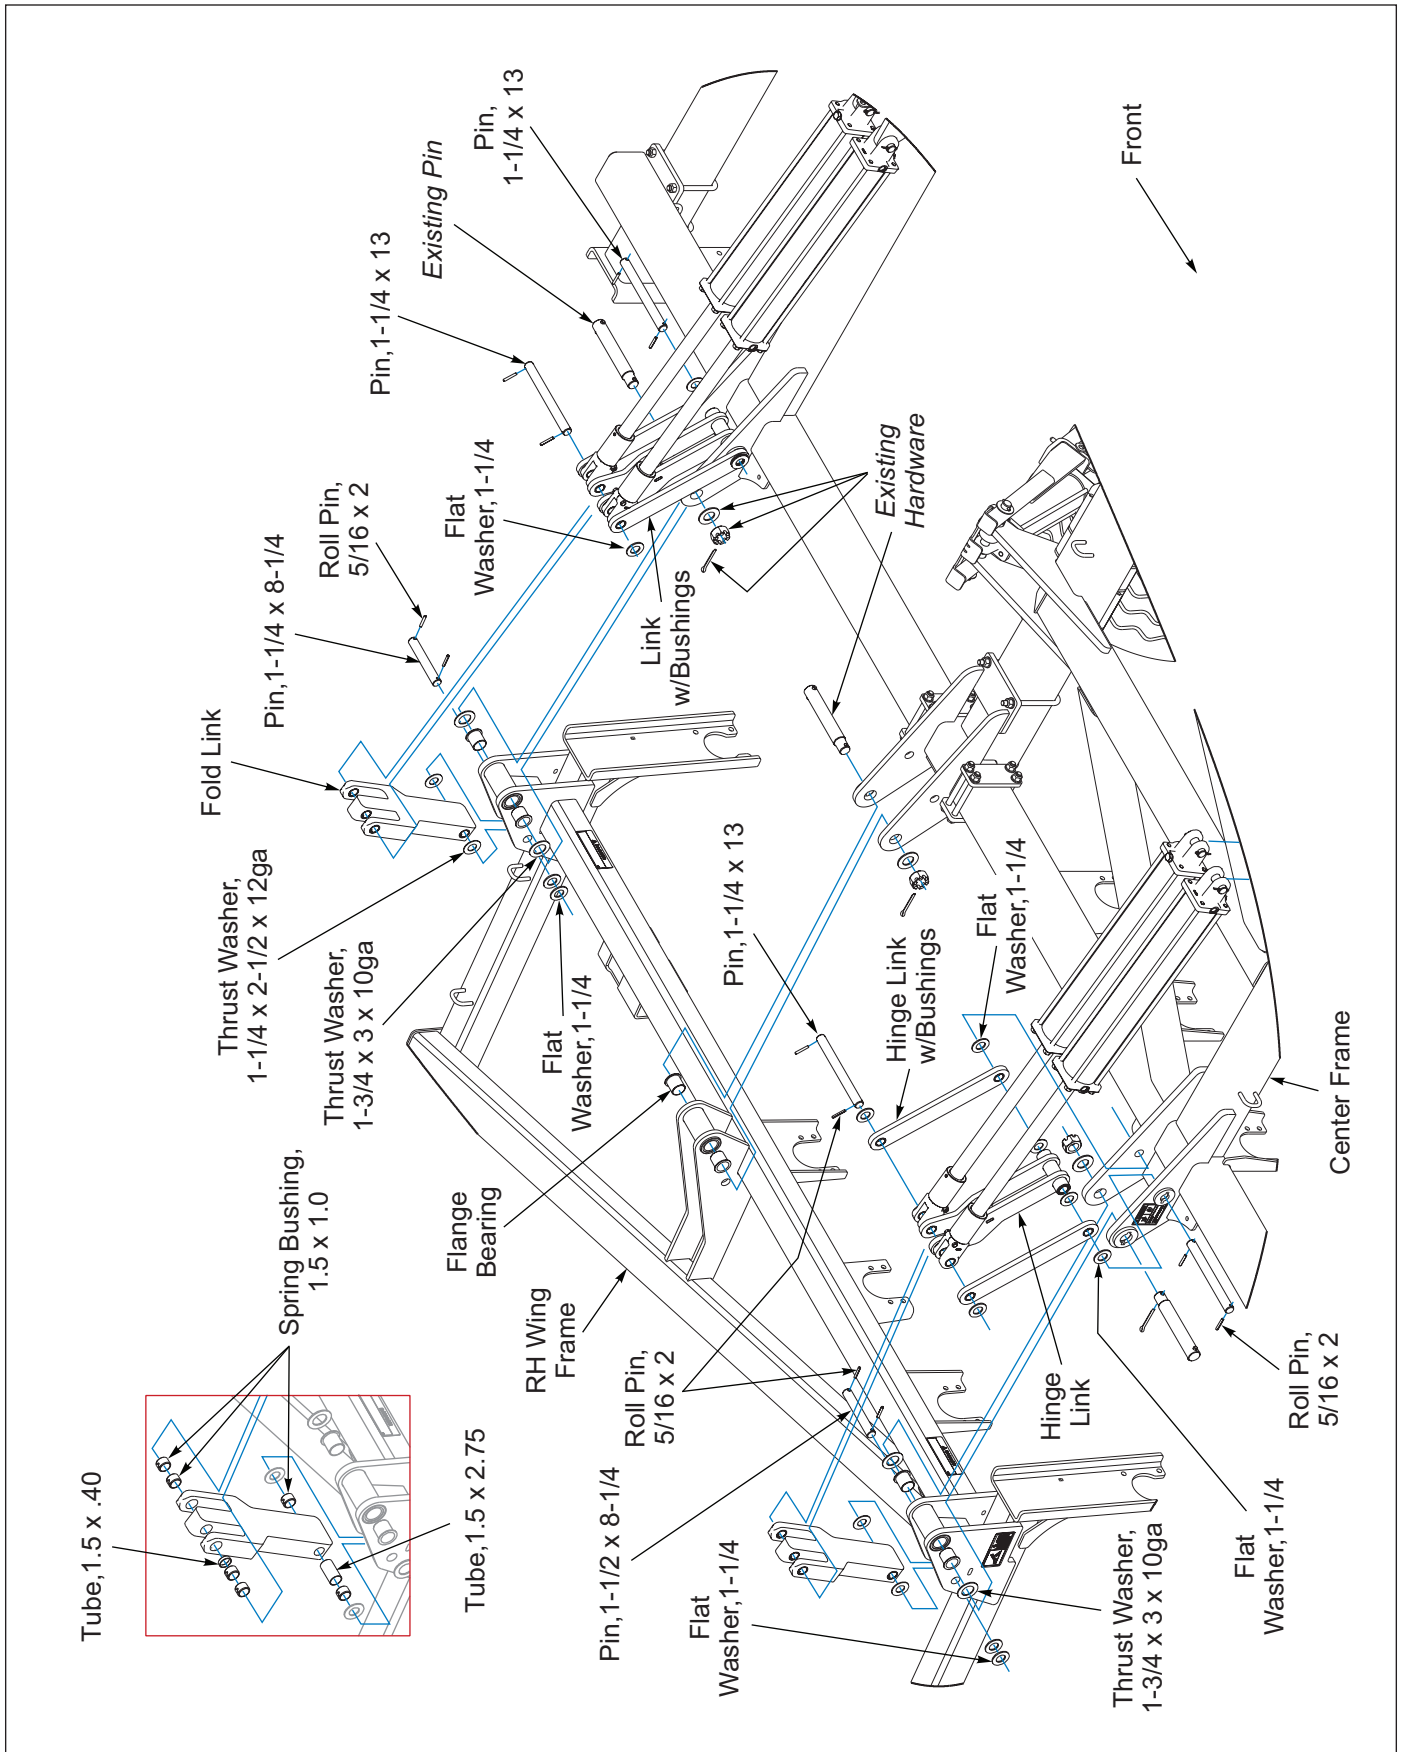

Figure 2-55: Wing Hinge to Frame Installation
1. Insert two Flange Bearings into each Wing Frame Hinge. Remove existing Pin and Hardware from Center Frame Hinge Lug. Position the Wing Frame Hinges between the Center Frame Hinge Lugs and align the holes. Once positioned place one 1-3/4 x 3 x 10ga Thrust Washer between each Wing Frame Hinge and Center Frame Hinge Lug on the front and rear hinges. (No Thrust Washers on middle hinges.) Thrust Washer should be against the Flange Bearing. Secure by Re-installing Pin and Hardware. See Figure 2-55.
2. Place the Welded Hinge Link End between the Center Frame Hinge Plates. See Figure 2-55. Slide a 1-1/4 x 2-1/2 x 12ga Thrust Washer between the Hinge Link and the Center Frame Hinge Plates. Insert 1-1/4 x 13 Pin into the side of the Center Frame Hinge Plate. See Figure . Place two Flat Washer on each end of the Pin. Secure with 5/16 x 2 Roll Pin.